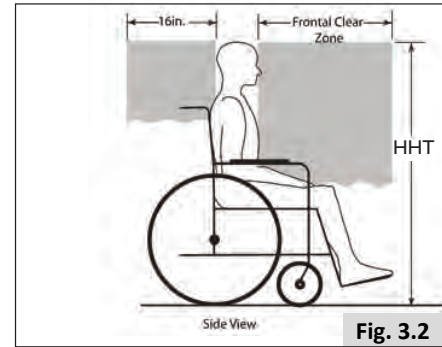

Fig. 3.2
4. The estimated seated height (HHT) from the ground or floor to the top of the wheelchair-seated occupant's head ranges from approximately 47" (119 cm) for a small adult female to about 61" (155 cm) for a tall adult male (Fig. 3.2).